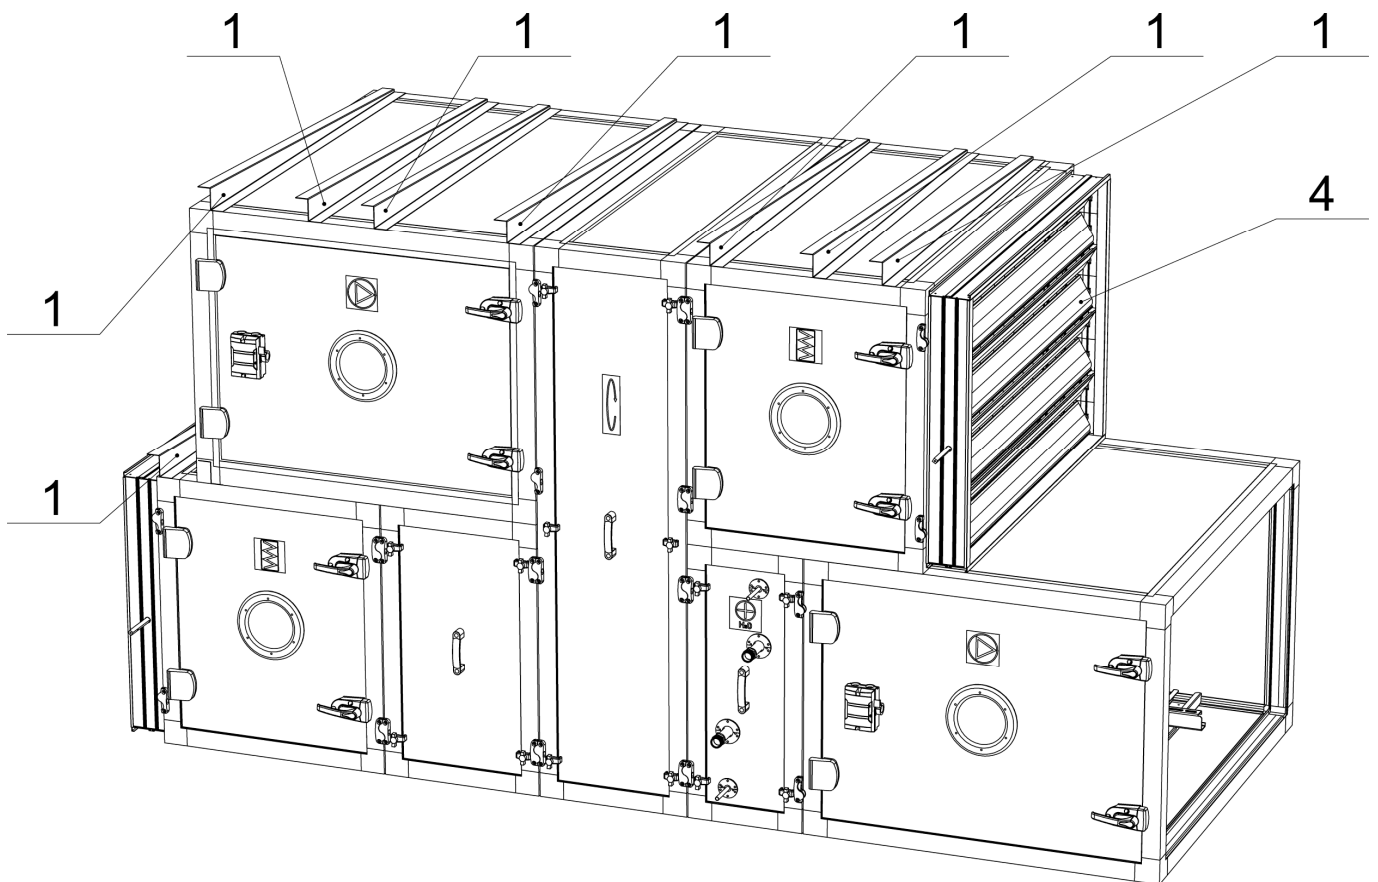
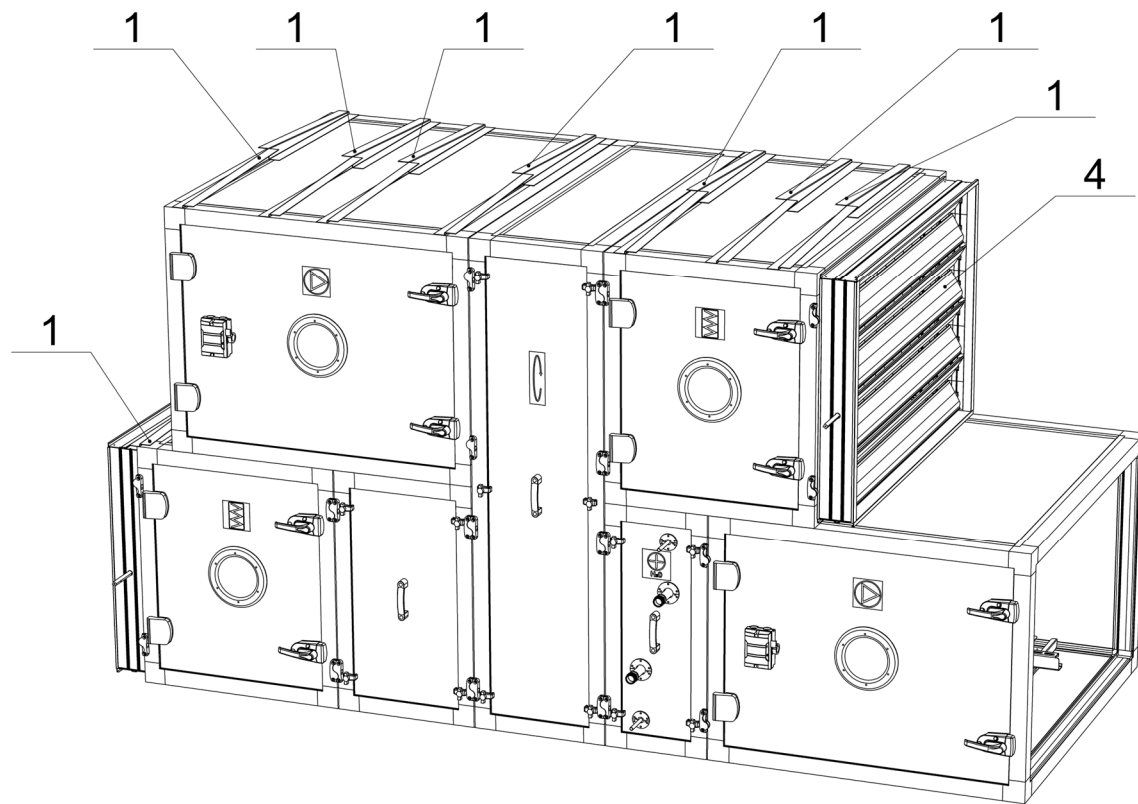

Figure 8.6.1 - Roof assembly with single slope. Step 1.
Figure 8.6.3 - Roof assembly with double slope. Step 1.
1. Fix roof guiding profiles 1 to AHU roof with self-screws (Figure 8.6.1 or Figure 8.6.3). The pitch of guiding profiles 1 for roof with single slope must be opposite directed to the maintenance side of AHU.